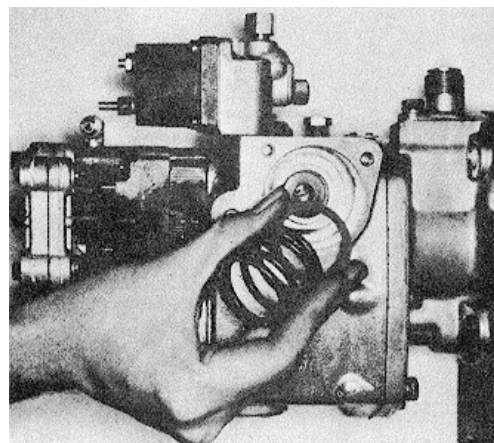

Fig. 5-26, F5303. Removing AFC bellows spring and washer
3. Remove AFC bellows spring and steel shim between spring and fuel pump housing. Fig. 5-26.
3. Install spring with small end in housing. Fig. 5-26.